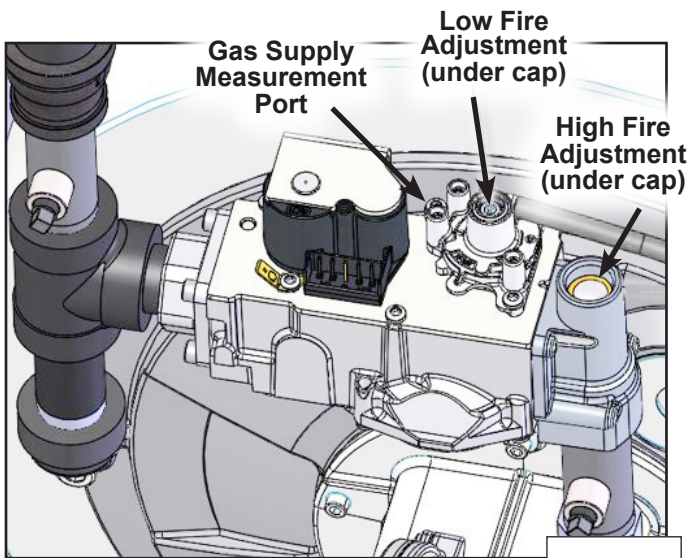
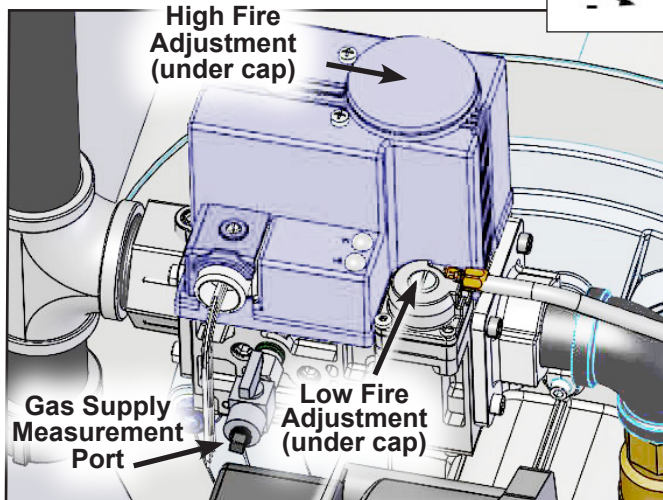

Figure 51. Gas Valve Adjust, 399 - 500
Figure 52. Gas Valve Adjust, 650 - 800
6. Once the unit is firing at 100%, use a 6mm Allen key (399 – 500), a 3mm Allen key (650 – 800), or a flathead screwdriver (999 – 1500) to adjust the high fire adjustment screw on the gas valve to obtain the correct CO₂ and CO measurements as shown in Table 28. See Figure 51, Figure 52, and Figure 53 on the next page.
7. While the unit is running at high fire, measure the gas pressure at the gas supply measurement port shown in Figure 51 – Figure 53 on page 101. For models 399 – 500, use a T10 Torx driver to open the port, and for models 650 – 1500 install a 1/8" NPT barbed fitting. Ensure the supply pressure is equal to or greater than 3.5" w.c. If any other appliances share the gas supply line, the pressure must also be checked to ensure it is above 3.5" w.c. with every appliance that shares the supply line operating at maximum capacity. If the gas pressure is greater than 10.5" w.c. turn off the main shut-off gas valve upstream of the unit and, as necessary, adjust or replace the fuel regulating components.
9. Allow the unit to stabilize at low fire. Using a T40 Torx (399 – 800) or a 2.5mm Allen key (999 – 1500), adjust the low fire adjustment screw on the gas valve to obtain the correct CO₂ and CO measurements as shown in Table 28. While the unit is running at low fire, check that the gas supply pressure is within the correct range per step 7.